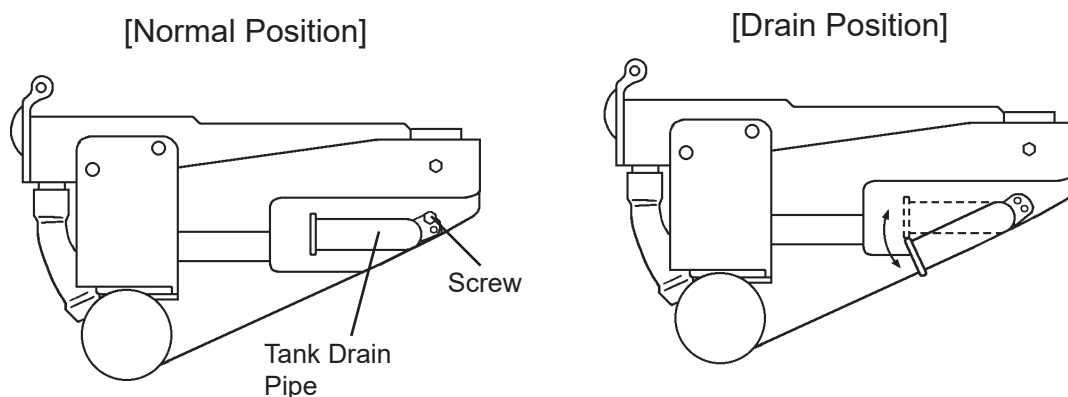

**Fig. 1**
- 4) Move the tank drain pipe to the drain position. See Fig. 1.
- 6) Remove the screw, and move the tank drain pipe to the drain position. See Fig. 1.